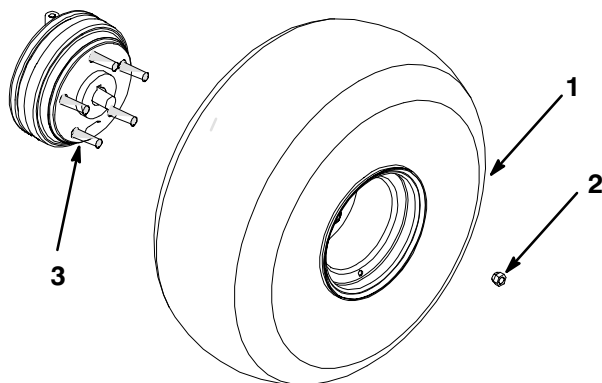

Figure 2
3. Mount the wheels with the previously removed fasteners (Fig. 2) and torque the nuts to 45-65 ft-lb.